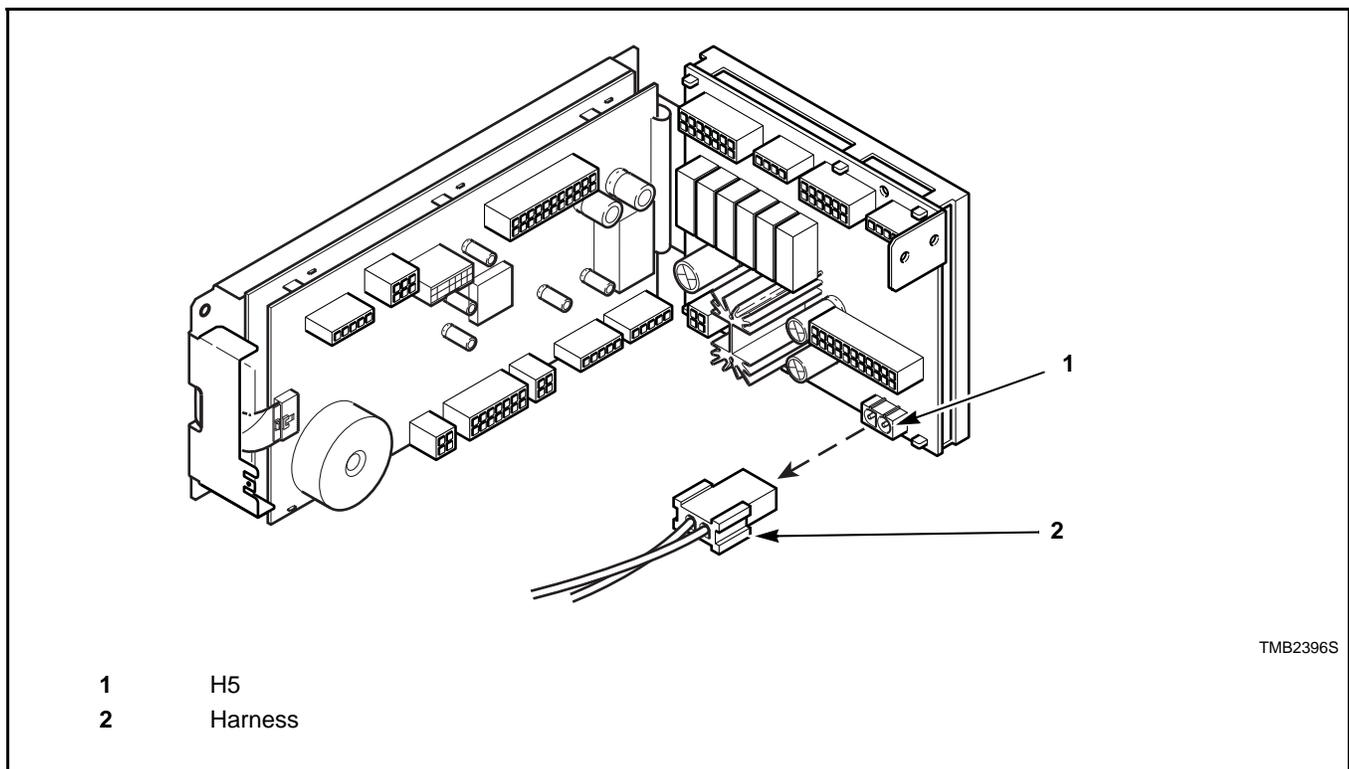

Figure 9
1. On the control board, unplug the harness from header H5 (Refer to *Figure 9*).
1. At the control, unplug harness at header H5 (Refer to *Figure 9*).